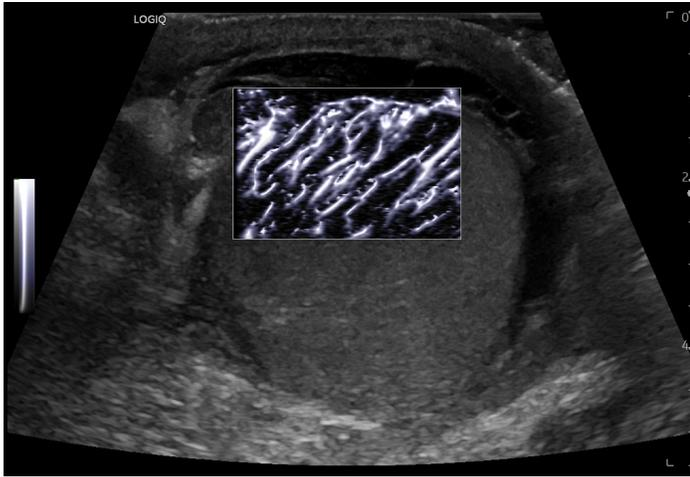

Figure 15. Perfusion through testicle using MVI.
- Pediatric scrotal imaging to assess inflammation or torsion (Figure 15)